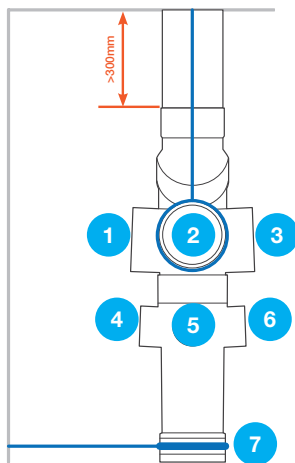
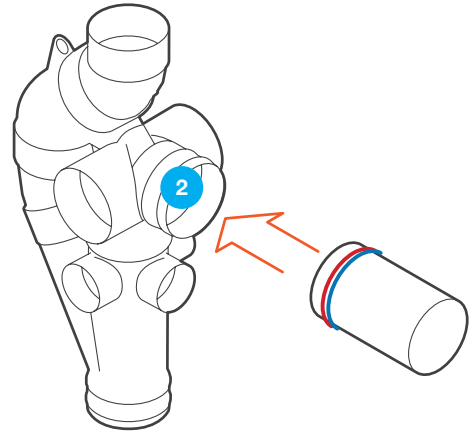

Figure 4
Figure 5
- Connecting to the top centre 100DN inlet – when connecting to the top centre 100DN inlet (Position (2)) simply remove the 100DN plug that comes with all Converge aerators and form the connection using the standard solvent cement joining procedure (see Fig. 4).
- Connecting to either the side 100DN inlets and/or the 65DN inlets – when connecting to these inlets (Positions (1), (3), (4), (5) and (6)) the following steps apply:
- Primer & Solvent cement join the 100DN plug into the top centre 100DN inlet (Position (2)) (see Fig. 5).